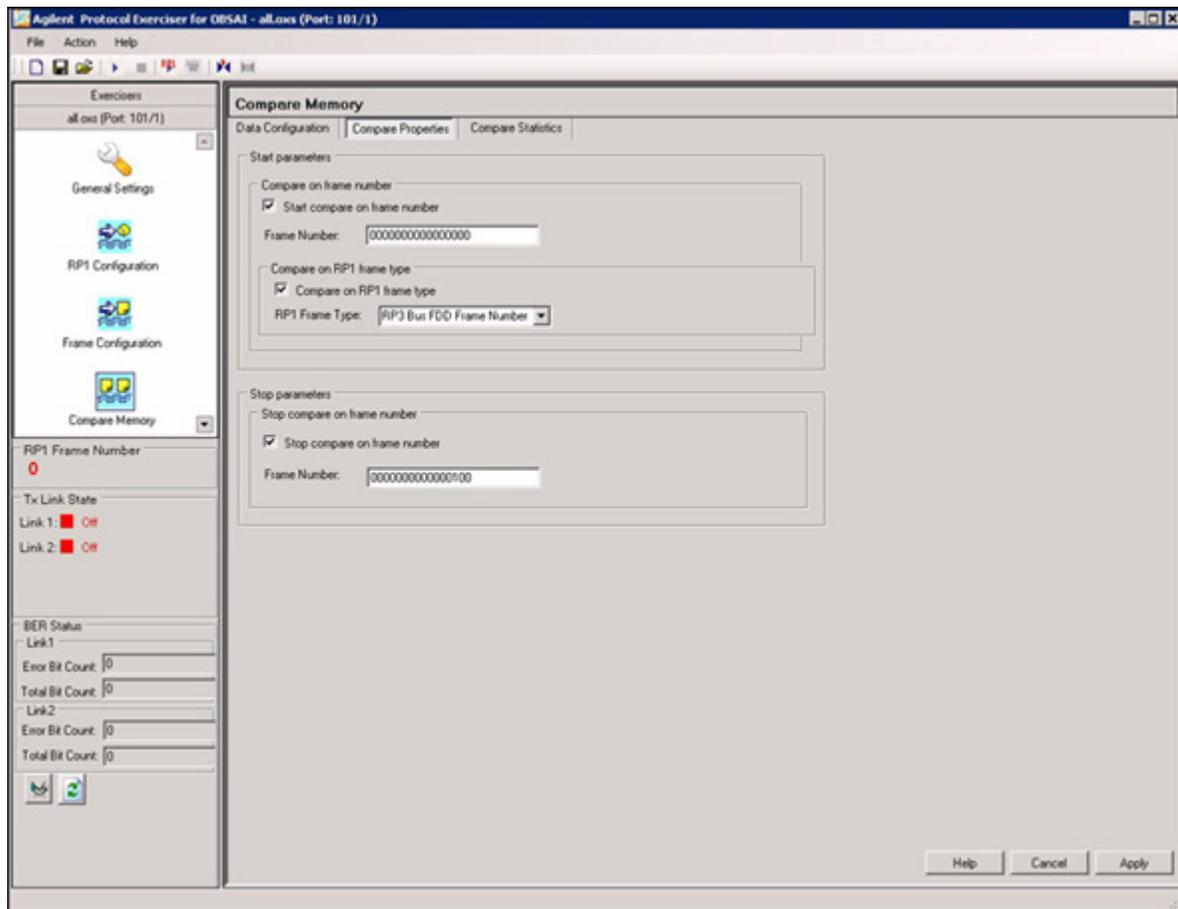

Figure 34 Compare Properties screen
- 1 Click **Compare on RP1 frame type** checkbox under **Start parameters** and select the required frame type as **RP1FrameType** as shown in the Figure 34.